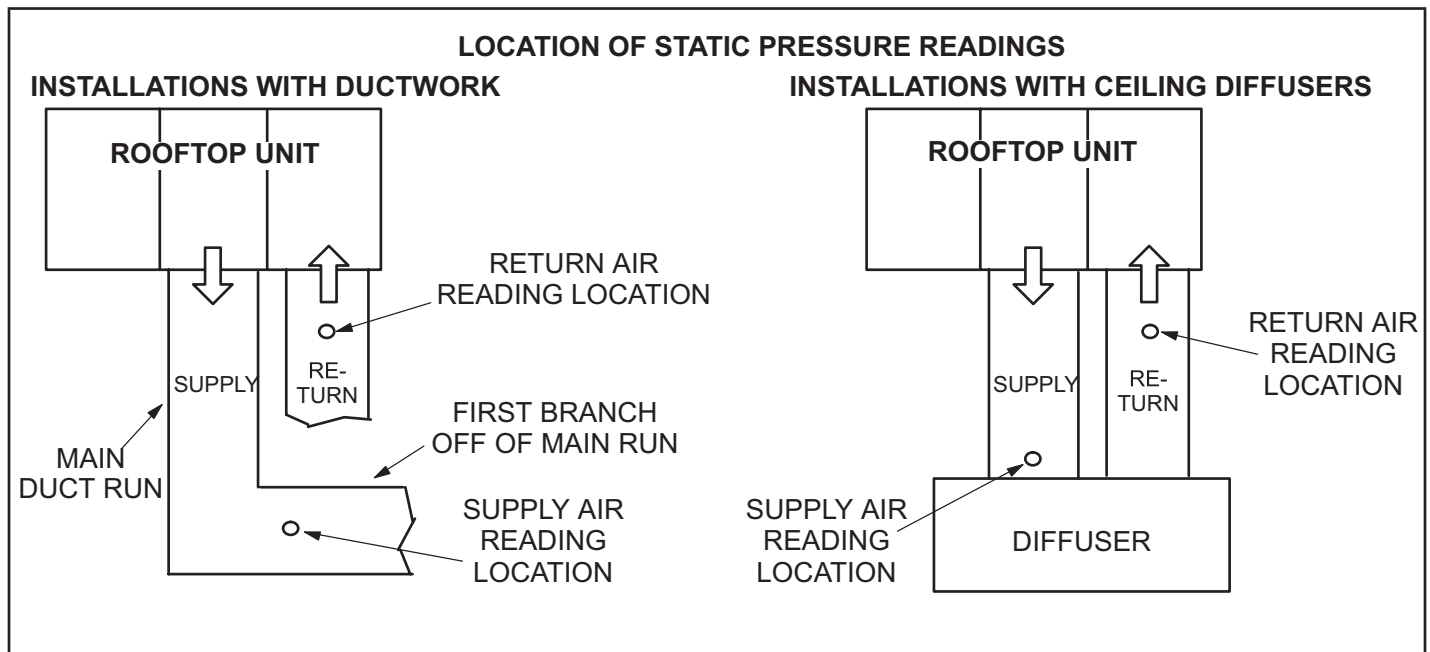

FIGURE 19
- 2 - With all access panels in place, measure static pressure external to unit (from supply to return). Blower performance data is based on static pressure readings taken in locations shown in FIGURE 19.